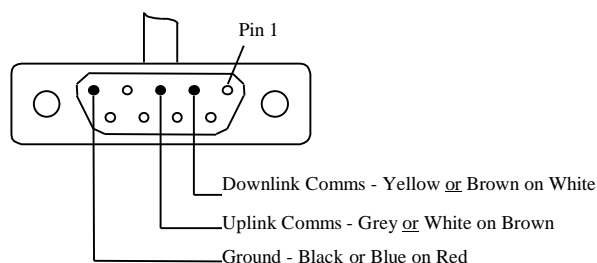

Figure 62. STMON PC Connection
1. STMON for Windows communicates via the PC RS232 com port which connects to the ST to Service Interface Unit. The PC interface cable is terminated as in Figure 62.